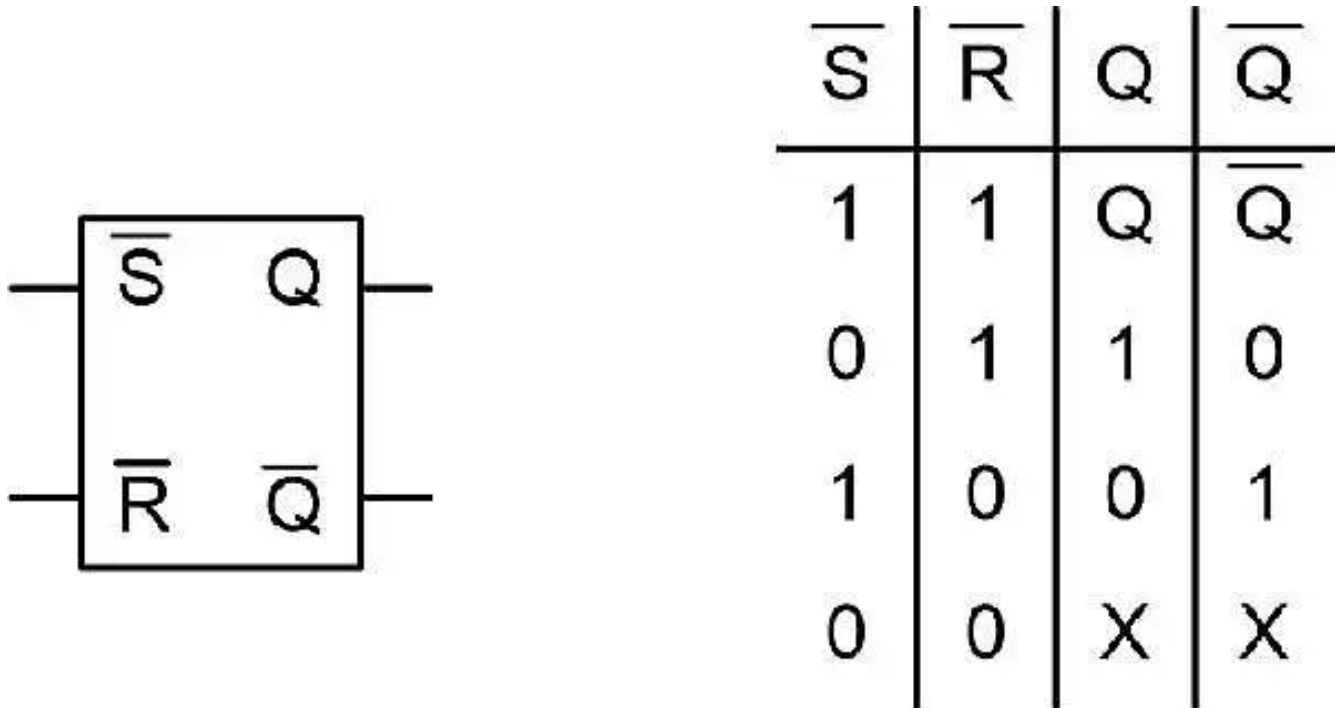

Figure 2. SR latch with active-low inputs and corresponding truth table.
It is possible to add a latch-off fault response to a power converter with a simple set/reset (SR) latch circuit. Figure 2 shows an SR latch and its truth table. For this example, the SR latch has active-low inputs. This means that when the inputs are high, the outputs Q and Q-Bar do not change. If the set input goes low, Q will be set high (1). If reset goes low, Q will be low (0). If both inputs are low, the outputs are in an undetermined state, a situation that generally should be avoided. Additional logic gates can overcome this situation.
Figure 2 illustrates a high-level approach to implementing the latch circuit. Many power converters and monitoring circuits have a power good (PGOOD) output. If there is a fault in the converter, the PGOOD signal will pull low, indicating that the converter has a problem. When the PGOOD signal goes low, the output of the latch circuit (Q) will go high, which in turn will pull the EN pin of the converter low. The converter will turn off when the EN pin goes low and will not restart by itself. A reset signal sent to the latch restarts the converter and brings the Q output low, which in turn brings the EN pin high. The inverters are included to make interfacing simpler; they are implemented with an open-drain metal-oxide semiconductor field-effect transistor (MOSFET).